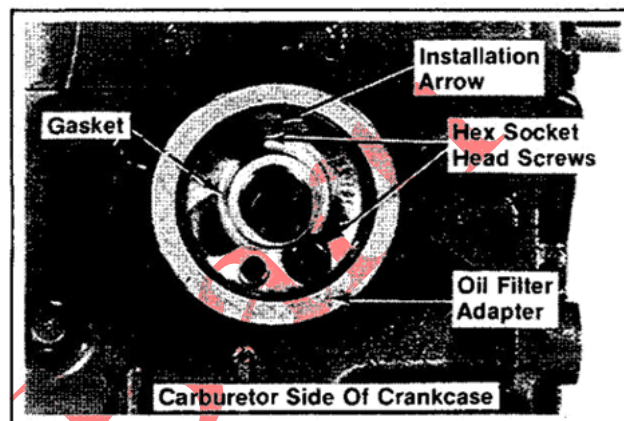

Figure 11-28. Installing Oil Filter Adapter.
1. Install the gasket, oil filter adapter, and hex socket head screws. Make sure the arrow on filter adapter is pointing to carburetor side of crankcase. Refer to Figure 11-28.